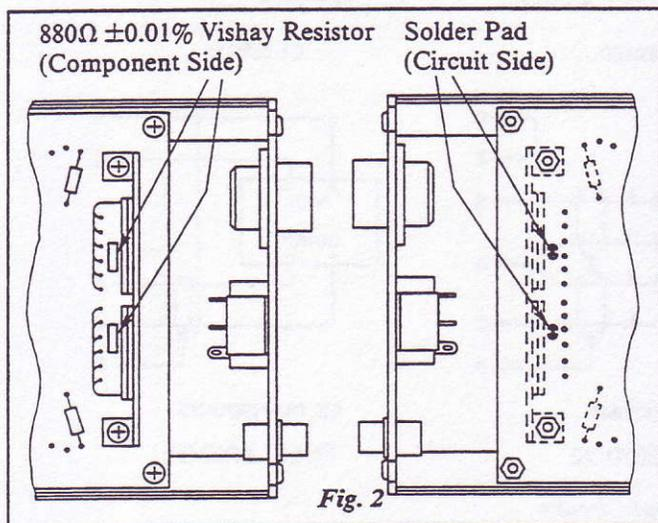

Fig. 2
**NOTE:** 2120A Strain Gage Conditioner, with serial numbers above 85000, provide the capability for 1000 $\Omega$  quarter-bridge operation. For this mode, the 120 $\Omega$  dummy terminal (pin H of input plug) is converted to a 1000 $\Omega$  dummy terminal by removing a shunt from a factory-installed Vishay 880 $\Omega$  precision resistor in series with the internal 120 $\Omega$  dummy gage. To make this conversion the user must desolder a solder pad located on the circuit side of the PC board. Figure 2 shows the location of the 880 $\Omega$  resistor (component side) and the solder pad.